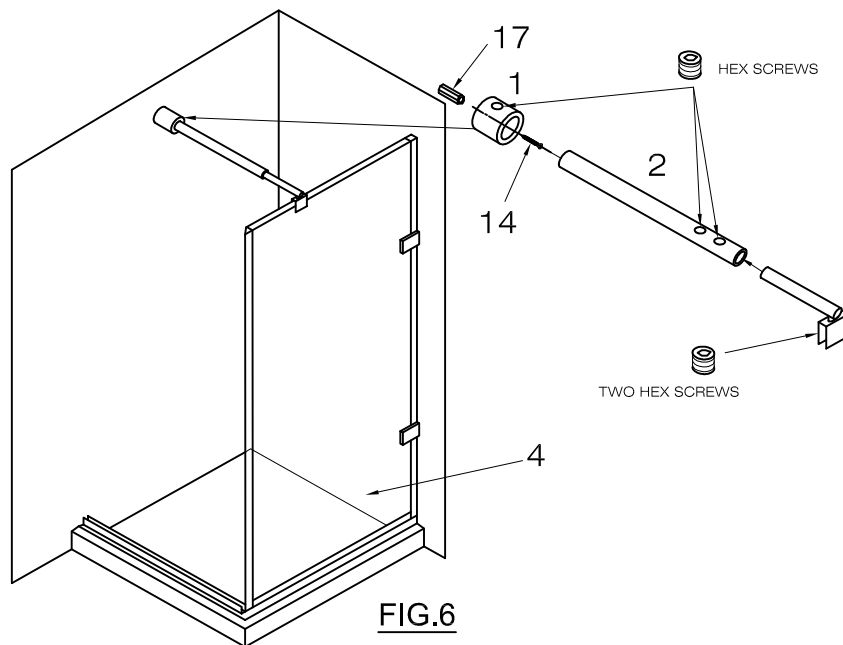

FIG.6
1. Install the wall connector (#1) approximately two-thirds for the wall. [SEE FIG.6]